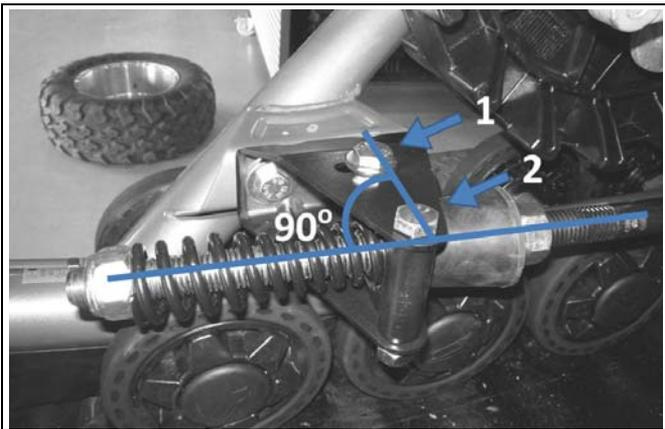

Figure 12
- Position the anti-rotation retainer at 90° (perpendicular) with the stabilizing rod. Tighten the two anti-rotation bracket mounting bolts (1 and 2) to 50 N•m of torque. (See Figure 12).